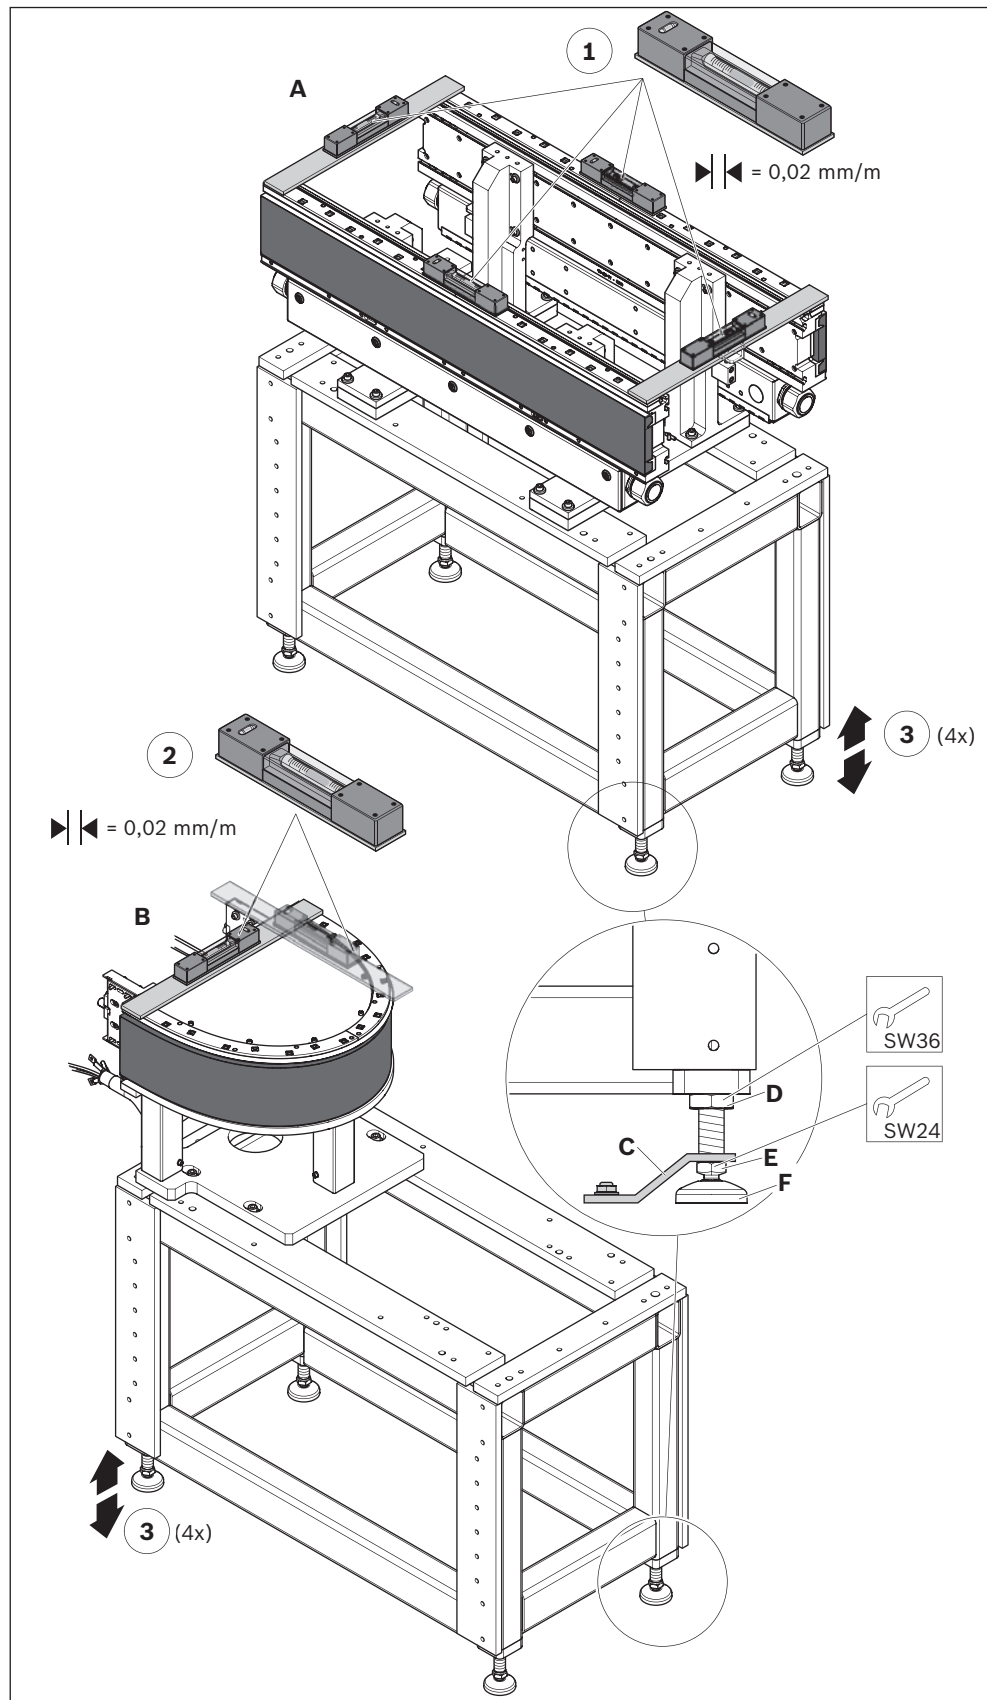

Fig. 41: Checking system section alignment
6. Position the system section being added (B) under the connection plate on the reference system section (A).
7. Align the system section so it is level, plumb, square and the same height as the reference system section (see Fig. 41 on page 64).